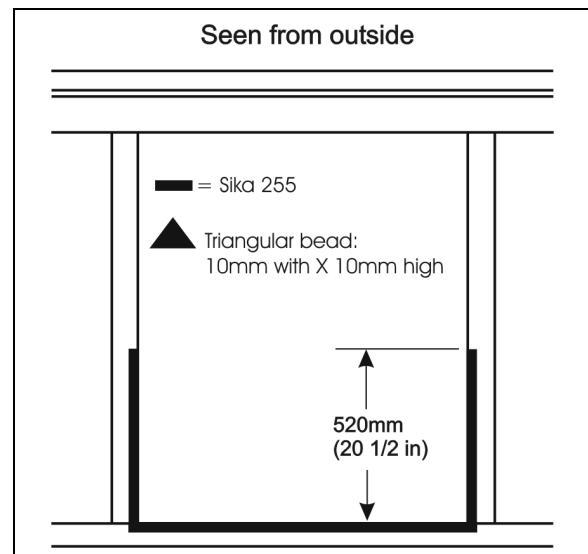

FIGURE 66: AWNING WINDOW – SIKA 255 APPLICATION
7. Apply Sika 255 as per FIGURE 66 (triangular bead: 10mm width X 10mm high).